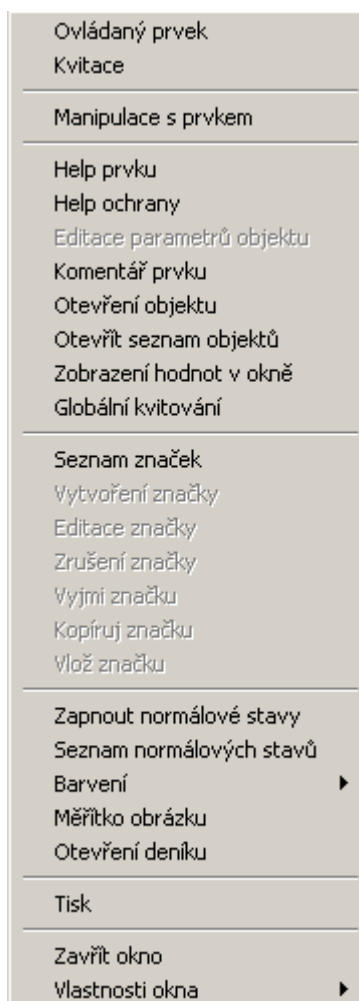

Fig. 12 Menu with functions on the signal
- Full menu items displayed by clicking with the right mouse button or signal, measurement, mark or other mentioned marks on any part of the image can be seen on the following printed menu items (Fig. 12, 13, 14, 15). In practice the menu items are less, i.e. if the user does not have the right for the respective function, this function is not displayed in the menu or after selection of the function in the consequently displayed window, some icons are not active.